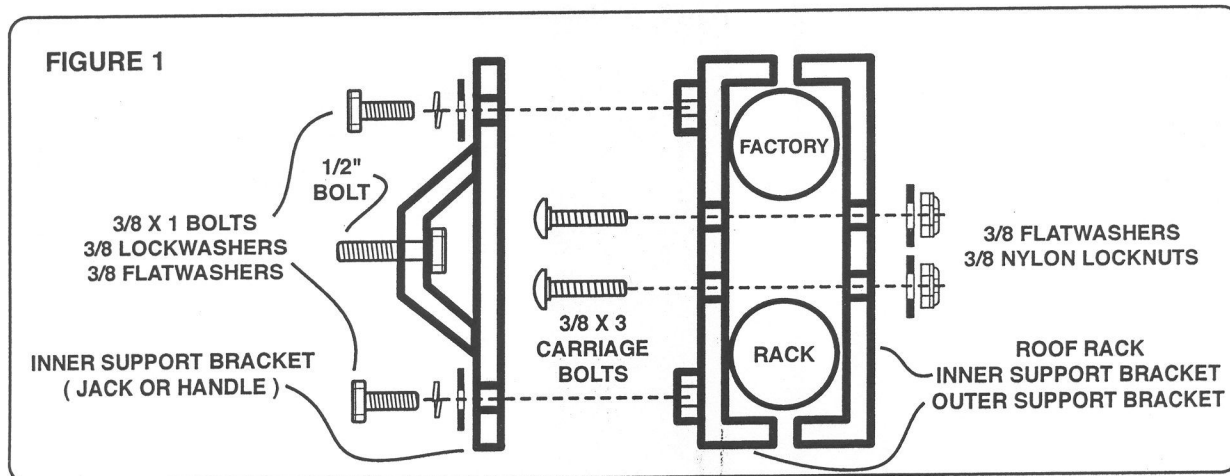

FIGURE 2
(2" WIDE) (REFER TO FIGURE 2)
(REFER TO FIGURE 2)
- 3 - ADJUST MOUNTING BRACKETS SO THE 1/2" BOLT GOES THROUGH JACK AS SHOWN IN FIGURES 2 & 3 TIGHTEN ALL MOUNTING BRACKET HARDWARE.
- 4 - SECURE JACK TO MOUNTING BRACKETS AS SHOWN IN FIGURES 2 & 3, TIGHTEN 1/2" WING NUTS, CHECK WING NUTS ON A REGULAR BASES TO INSURE WING NUTS DO NOT VIBRATE LOOSE.